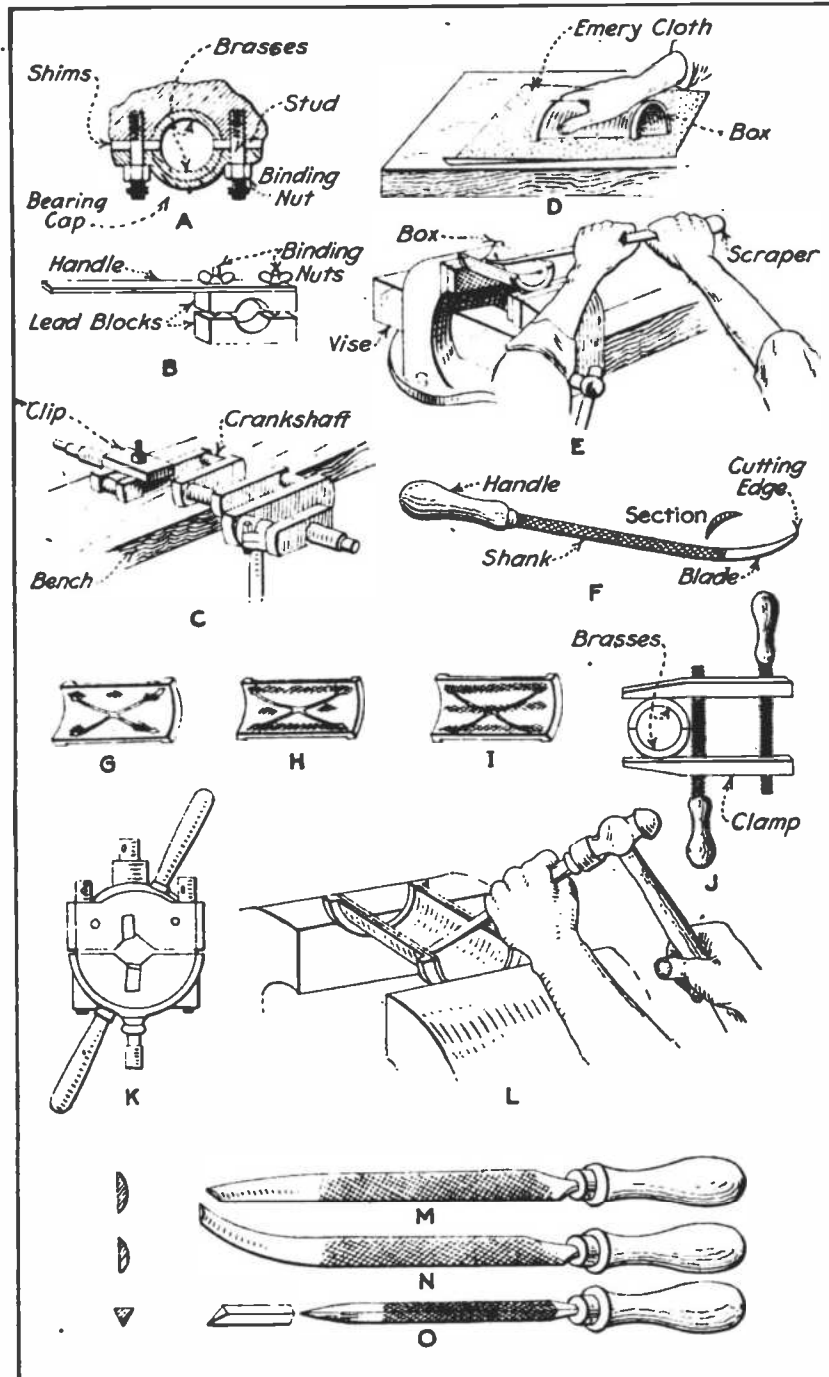

Fig. 2. Tools and processes used in refitting engine bearings
**W**HEN the bearings are not worn enough to require refitting, the lost motion can often be eliminated by removing one or more of the thin shims or liners ordinarily used to separate the bearing caps from the seat. These are shown at Fig. 2 A. Care must be taken that an even number of shims of the same thickness are removed from each side of the journal. If there is considerable lost motion after one or two shims have been removed, it will be advisable to take out more shims and to scrape the bearing to a fit before the bearing cap is tightened up. It may be necessary to clean up the crankshaft journals as these may be scored, due to not having received clean oil or having had bearings seize upon them. It is not difficult to true up the crank-pins or main journals if the score marks are not deep. A fine file and emery cloth may be used, or a lapping tool such as depicted at Fig. 2 B. The latter is preferable because the file and emery cloth will only tend to smooth the surface and there is always the danger of having the crankpins or journals out of round unless the work is done by an expert, while the lap will have the effect of restoring the crank to proper contour.
worn out of true to any extent the sure method of restoring it is to have it ground down to proper circular form by a competent mechanic having the necessary machine tools to carry on the work accurately. A crank-pin truing tool that may be worked by hand is shown at Fig. 2 K, and if the automobile owner or repairman is possessed of the requisite mechanical skill, though he does not need to be an expert mechanic, it can be used to good advantage in truing roughened crank-pins and will do a good job.
In order to bring the brasses closer together, it may be necessary to remove a little metal from the edges of the caps to compensate for the lost motion. A very simple way of doing this is shown at Fig. 2 D. A piece of medium emery cloth is rested on the surface plate and the box or brass is pushed back and forth over that member by hand, the amount of pressure and rapidity of movement being determined by the amount of metal it is nec-
pins or crankshaft journals, they must be scraped to fit the various crankshaft journals. The process of scraping, while a tedious one, is not difficult, requiring only patience and some degree of care to do a good job. The surface of the crank-pin is smeared with Prussian blue pigment which is spread evenly over the entire surface. The bearings are then clamped together in the usual manner with the proper bolts, and the crankshaft revolved several times to indicate the high spots on the bearing cap. At the start of the process of scraping in, the bearing may seat only at a few points, as shown at Fig. 2 G. Continued scraping will bring the bearing surface as indicated at H, which is a considerable improvement, while the process may be considered complete when the brass indicates a bearing all over, as at I. The high spots are indicated by blue, as where the shaft does not bear on the bearing there is no color. The high spots are removed by means of a scraping tool of the form shown at Fig. 2 F, which is easily made from a worn-out file. These are forged to shape and ground hollow as indicated in the section and are kept properly sharpened by frequent rubbing on an ordinary oil stone. To scrape properly, the edge of the scraper must be very keen. The straight and curved half-round scrapers, shown at M and N, are used for bearings. The three-cornered scraper, outlined at O, is also used on curved surfaces, and is of special value in rounding off sharp corners. The straight or curved half-round type works well on soft-bearing metals, such as babbitt or white brass, but on yellow brass or bronze it cuts very slowly, and as soon as the edge becomes dull considerable pressure is needed to remove any metal, this calling for frequent sharpening.
crankshaft may be saved if a preliminary fitting of the bearing brasses is made by clamping them together with a carpenter's wood clamp, as shown at Fig. 2 J, and leaving the crankshaft attached to the bench as shown at C. The brasses are revolved around the crankshaft journal and are scraped to fit wherever high spots are indicated until they begin to seat fairly. When the brasses assume a finished appearance the final scraping should be carried on with all bearings in place and revolving the crankshaft to determine the area of the seating. When the brasses are properly fitted they will not only show a full bearing surface, but the shaft will not turn unduly hard if revolved with a moderate amount of leverage.
Bearings of white metal or babbitt can be fitted tighter than those of bronze, and care must be observed in supplying lubricant, as considerably more than the usual amount is needed until the bearings are run in by several hours of test block work. Before the scraping process is started it is well to chisel an oil groove in the bearing as shown at Fig. 2 L. Grooves are very helpful in insuring uniform distribution of oil over the entire width of bearing and at the same time act as reservoirs to retain a supply of oil. The tool used is a round-nosed chisel, the effort being made to cut the grooves of uniform depth and having smooth sides. Care should be taken not to cut the grooves too deeply, as this will seriously reduce the strength of the bearing bushing. The shape of the groove ordinarily provided is clearly shown at Fig. 2 G, and it will be observed that the grooves do not extend clear to the edge of the bearing, but stop about a quarter of an inch
Another important consideration is the distance of the cutting edge of a tool from the supporting piece in the tool post. The greater this distance is the more tendency the tool will have to spring. This is depicted in Fig. 2. It is simply a matter of increasing the effective leverage. The tool should always be so mounted that its cutting edge will be as near to the supporting edge as practical. Care should also be taken to see that the tool is secured rigidly as possible to prevent chattering with its attending evils.